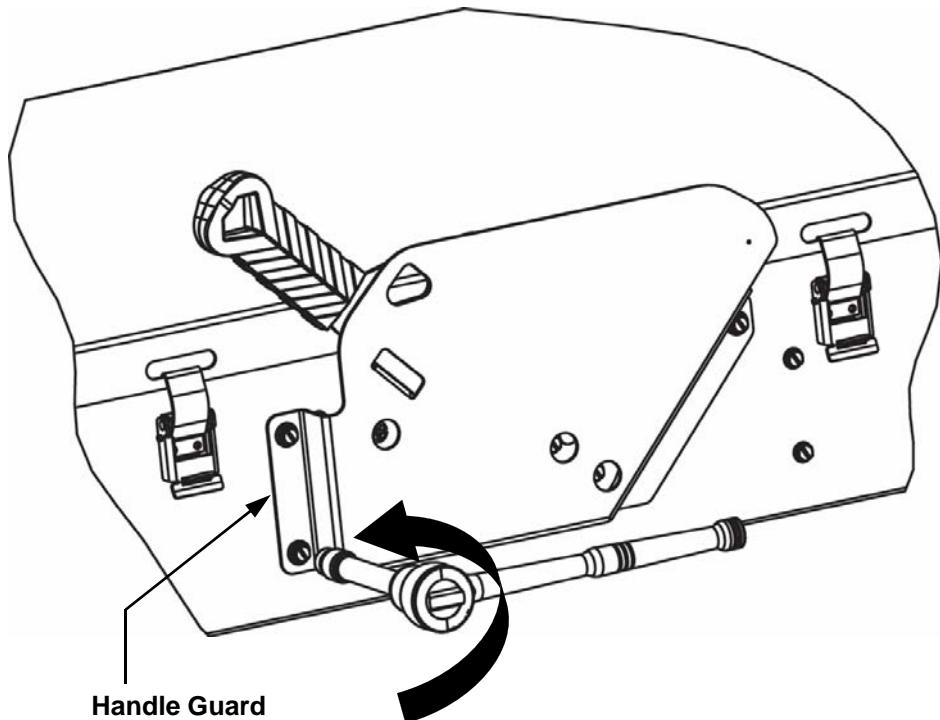

Fig. 6
5. Remove all 3 existing handle guard mounting screws, sealing washers (type 4X) , #10-32 nuts (type 4X) and handle guard as shown in Fig 6. Do not throw components away.